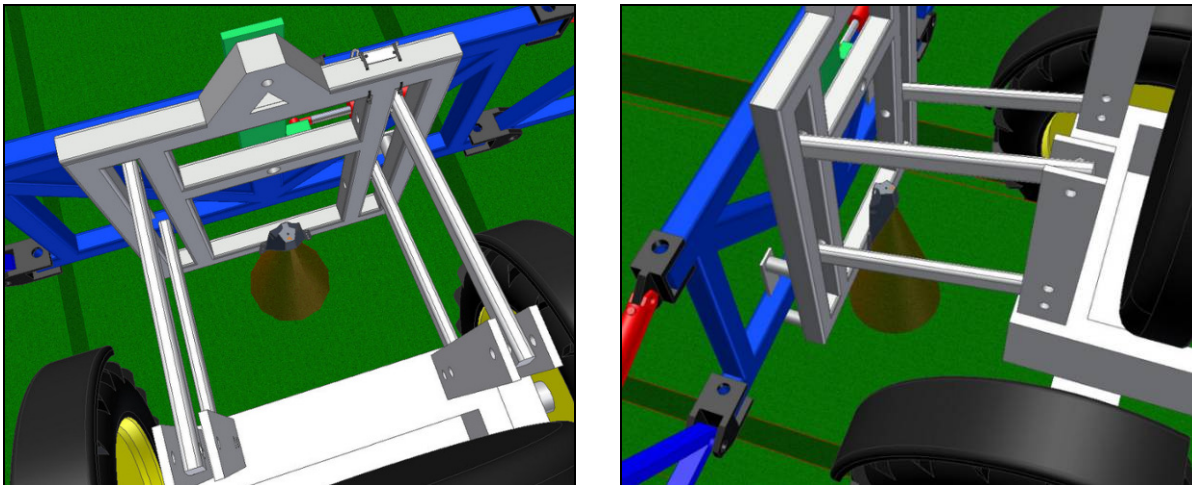

Figure 11: Example Mounting of the Main Lift Bracket
2. There are a variety of ways to mount the main lift bracket on most sprayers. The bracket should position the sensor approximately in the center of the sprayer, forward of the boom. An example of this mounting is illustrated in **Figure 11**.